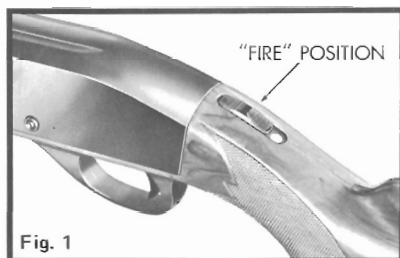

Fig. 1
**FIRE** — Push safety forward to FIRE position (Fig. 1). RED indicator button will show to rear of safety in FIRE position. Pull trigger to fire each round loaded into barrel. After firing, the autoloading action is designed to cock the rifle after fired cartridge case is ejected.